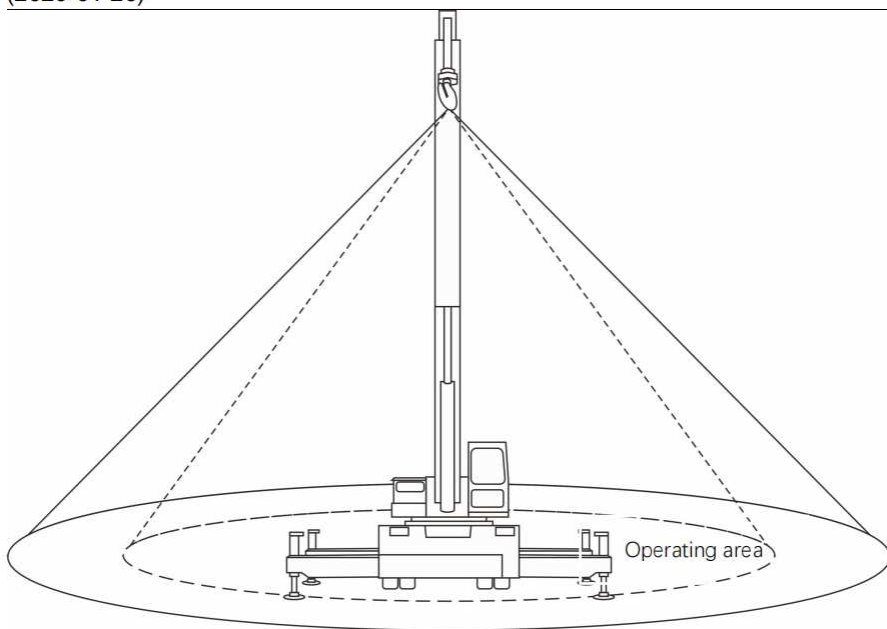

Figure.2
- Do not stand within 0.5-1m of the lifting area! During the whole lifting process, no one is allowed to stand under the boom or the work station. See the Figure.2